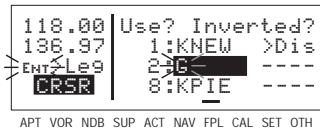

Figure 4-14
- Use the inner knob to enter the first character of the waypoint being inserted. As you begin to turn the knob, the existing waypoint in this position automatically jumps down to the next position. In this case, **SJI** automatically moves to waypoint 3 and **KPIE** changes to waypoint 8 (figure 4-14).